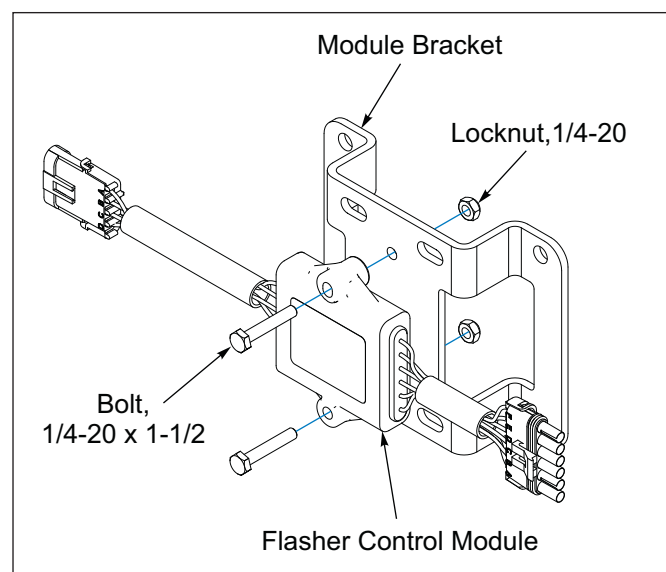

Figure 2-68: Flasher Control Module and Bracket (Before 08/2025)
2. Attach the Flasher Control Module to the Module Bracket with 1/4-20 x 1-1/2 Bolts and Locknuts. See Figure 2-68.